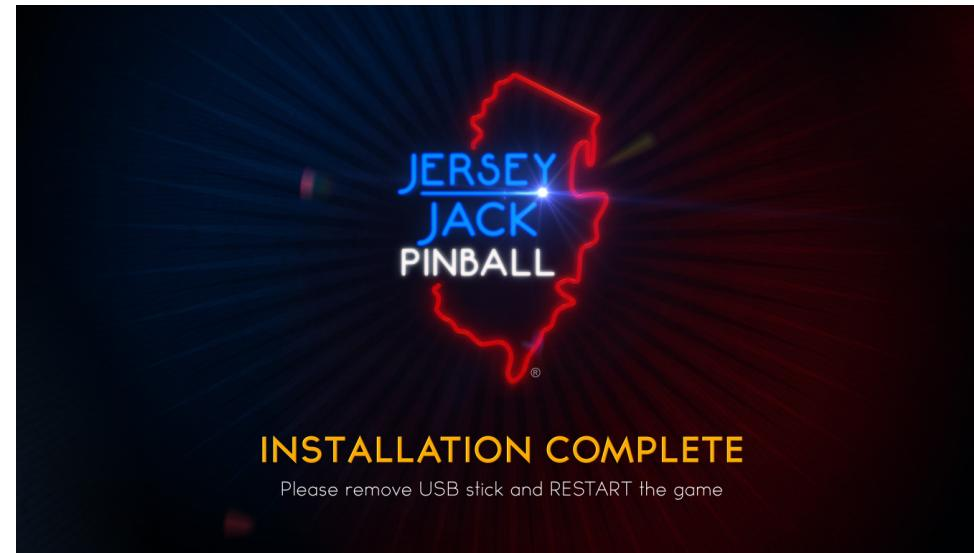

Figure E6. Update installation complete!
10) When the update is complete, the screen in figure E6 will be displayed on the game's LCD monitor. Power the game down, remove the update USB stick and power it on again. Your game will boot up running the new version of software (which can be verified by entering the POTC menu system - see Section B). Store your 8 GB USB stick in a safe place; it can be used to perform another full software update in the future (to this same software version or a newer one).